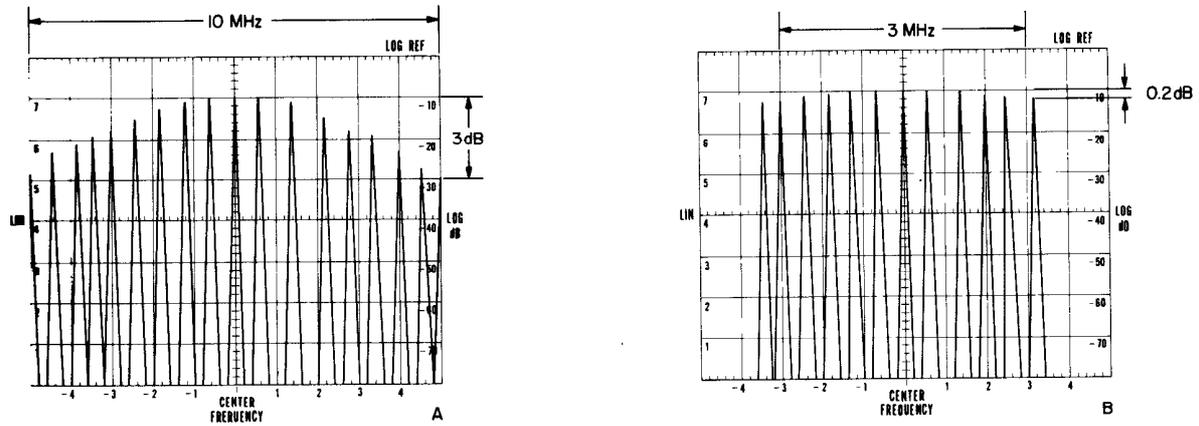

Figure 5-4. Bandpass Flatness Display
5. Check 3 dB bandwidth (see Figure 5-4).
7. Repeat step 4 and observe CRT display for flatness over a 3 MHz range (see Figure 5-4).